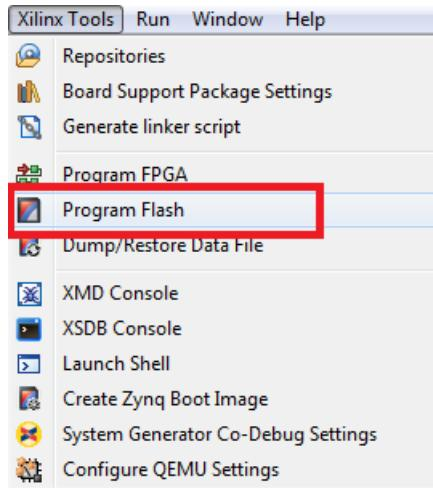

Figure 6-14: Launching the Flash Programming Tool
3. Select the **Program Flash** tool from **Xilinx Tools** menu, as shown in Figure 6-14.